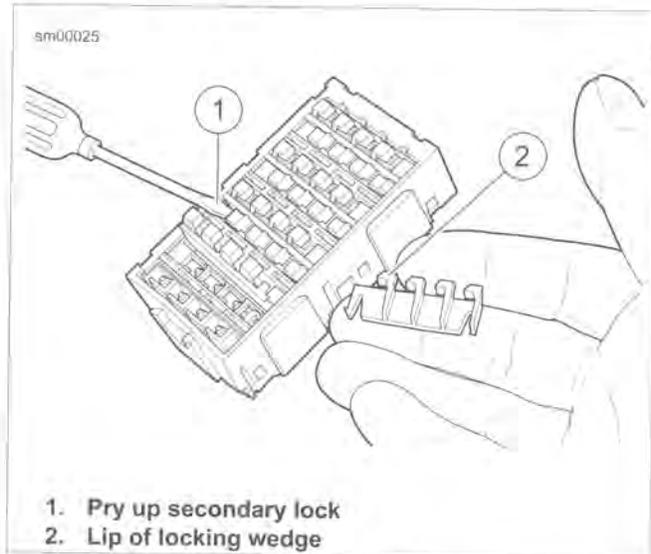

Figure A-16. Fuse Block: Remove Secondary Locks
1. See Figure A-16. To remove secondary locks, insert end of small flat blade screwdriver (1) under lip of locking wedge (2) and gently pry up secondary lock.